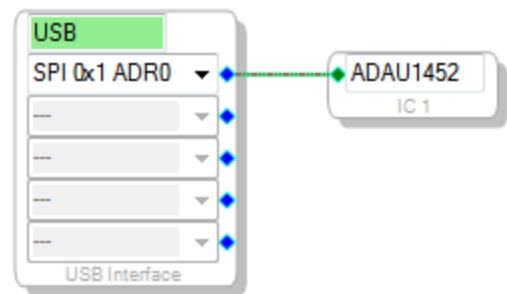

Figure 20. Connecting the USBi to an ADAU1452 in the Hardware Configuration Tab
5. Connect the USB interface to the target integrated circuit (IC), the **ADAU1452**, by clicking and dragging a line, representing a wire, between the blue pin of the USBi and the green pin of the IC (see Figure 20). This allows the USBi to communicate with the **ADAU1452**. The corresponding drop-down box of the USBi automatically fills with the default mode and channel for that IC. In the case of the **ADAU1452**, the default communications mode is SPI, the default slave select line is 1, and the default address is 0.